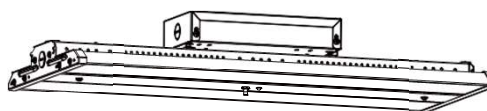

Figure 13
Step 4. Connect the wires according to the marking instructions on the wire. Mount the buttons and indicators of backup driver on front cover of fixture (Figure 13), then replace cover on fixture.